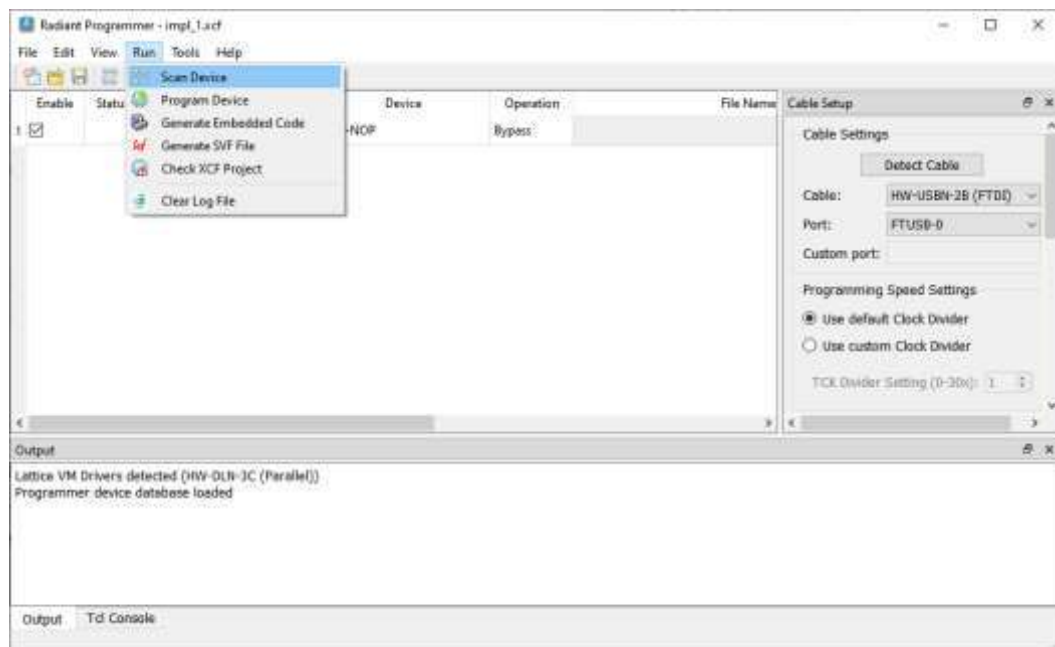
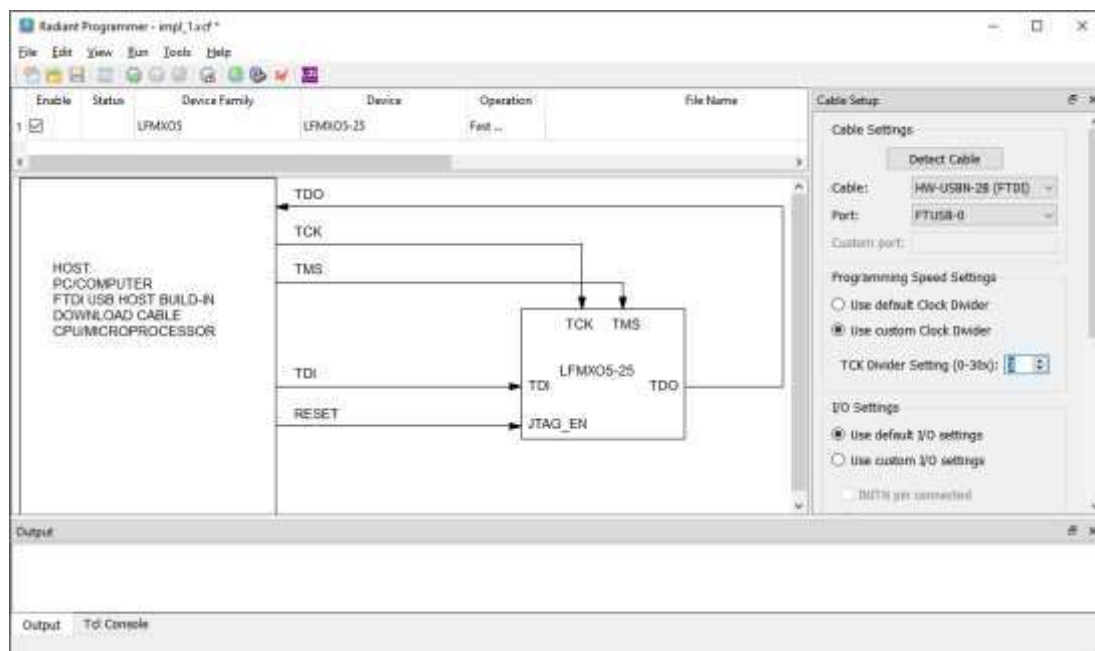

Figure 9.3. Radiant Programmer -Scan Device
Figure 9.4. Radiant Programmer – Device Detected
4. Click **Run > Scan Device** to check the board through FTUSB-0 Port of embedded HW-USB-2B(FTDI) cable, as shown in Figure 9.3. The MachXO5-NX device named as LFMXO5-25 should be detected on the JTAG chain as shown in Figure 9.4.
5. Change the **Programming Speed Settings** in the **Cable Setup** pane on the right. Use **custom Clock Divider** option to increase the **TCK Divider Setting** to 3 or above, as shown in Figure 9.4.